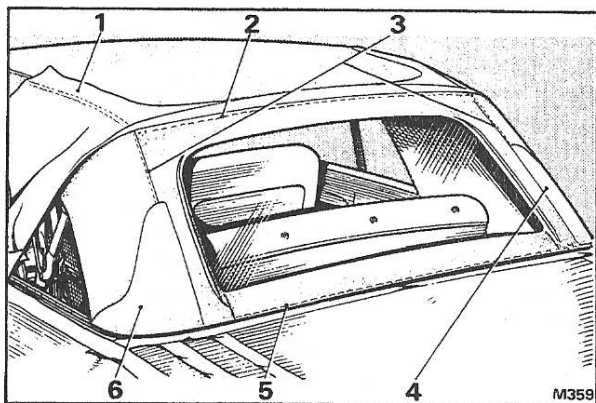

Fig. S153 Rear window and surrounding trim (Corniche Convertible)
3. Fold the hood outer covering forward to expose the window trim (see Fig. S153, item 1).
4. Carefully remove the two weather sealing strips situated one to each side of the window trim (see Fig. S153, items 4 and 6).
6. Remove the stitches securing each side of the window outer trim to the 'wiggings' (see Fig. S153, item 3) detach the outer trim from the 'wiggings'.
7. Remove the staples or tacks securing the lower edge of the window trim to the body; note the location and spacing of the staples to facilitate assembly (see Fig. S153, item 5).
11. Remove the staples securing the window trim to the hood rear cross-stick noting their position and spacing to facilitate assembly (see Fig. S153, item 2).
5. Use Dunlop Adhesive L107 or its equivalent to secure each side of the window outer trim to the 'wiggings' and also to secure the weather sealing strips on each side of the trim. Ensure that each strip overlaps the line of hand stitches (see Fig. S153, items 4 and 6).